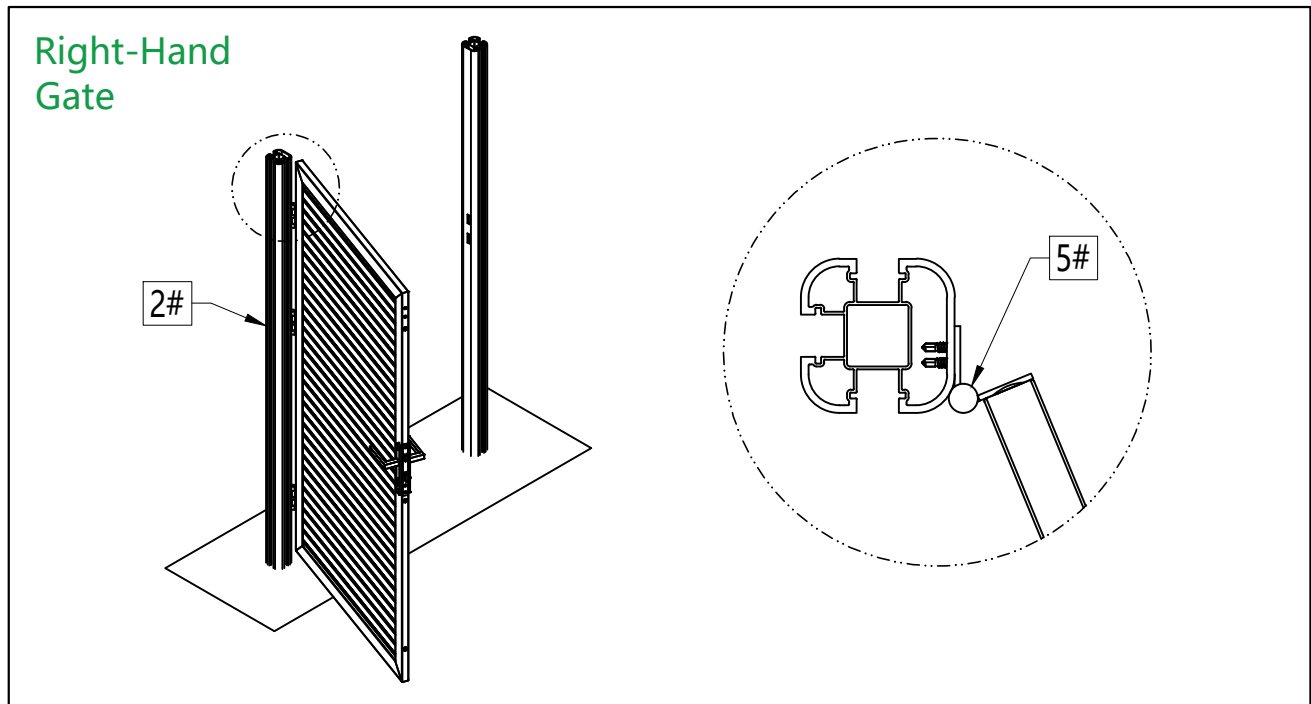

Figure 8.1
- 8 Install the Hinge (5#) onto the Fence Gate Post (2#) with Screws (6#), as shown in Figure 8.1.